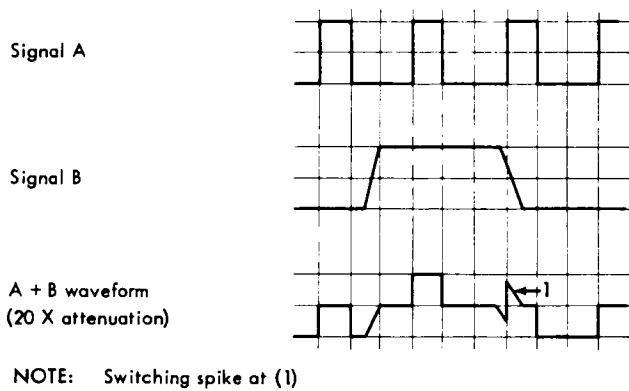

Figure 123. Duo-Input Switch
3. Viewing both signals at the same time with 20 × attenuation. The signals are algebraically added so that precise timing relationships can be observed (Figure 123).